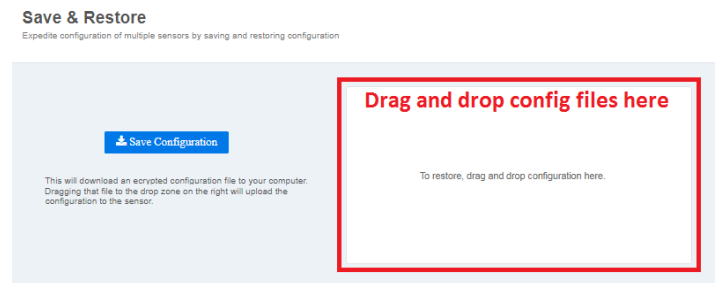

Figure 36. Drag and drop configuration files to load onto new motes
- Drag and drop the configuration file into the white box on the browser window as seen in **Figure 36**.